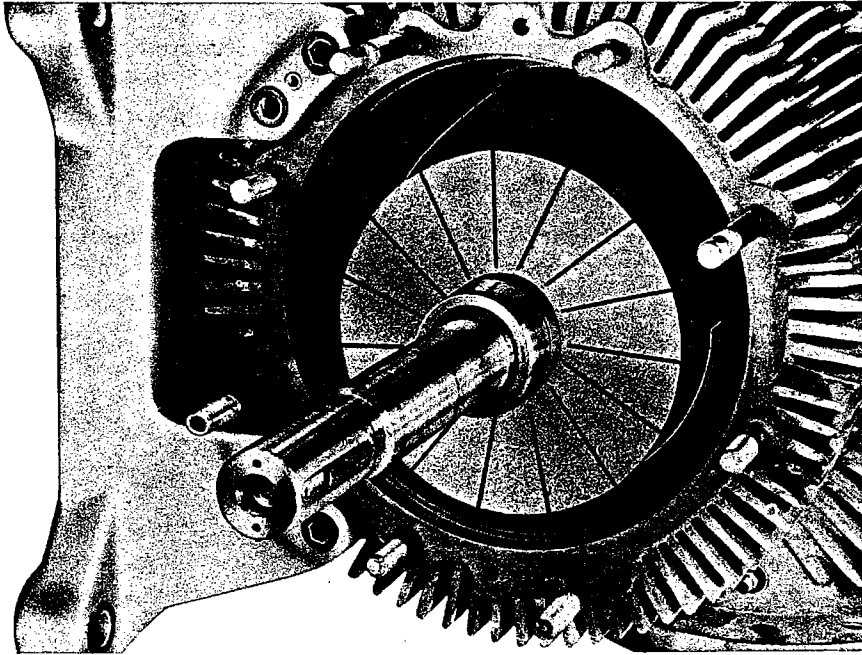
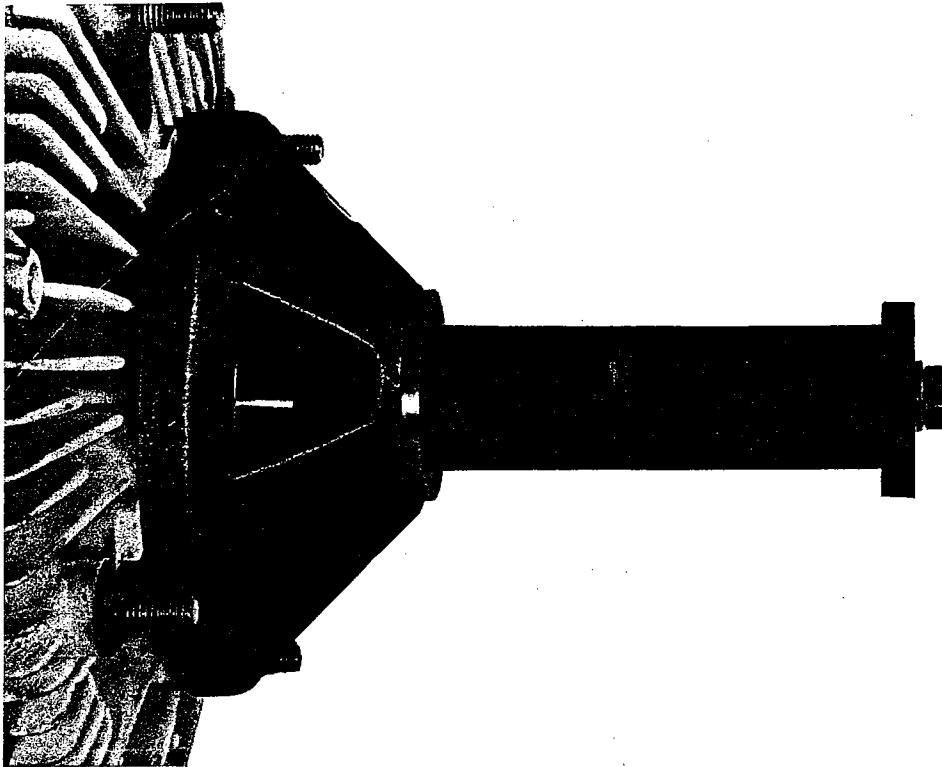

Fig. 20
Fig. 21
To the clearance "S" indicated in Table 10.1 is added half the bearing clearance of the roller bearings. Under the rotor (3) has been placed in the housing (1), a steel strip equivalent in thickness to the specified clearance plus the bearing clearance is inserted between the rotor and the housing (1) at both ends (Fig. 20). Lift the housing end-plate at the drive end, together with the gasket P1 and the fitted outer race and rollers of the cylindrical roller bearing (29), over the rotor shaft on to the inner race of the roller bearing. Place a steel disk in front of the housing end-plate and push a steel tube over the rotor shaft. A hexagonal screw fitted with a washer should then be inserted into the thread on the end of the rotor shaft and tightened until the rotor (3) is firmly held against the housing end-plate (2) (Fig. 21). Fix the end-plate (2) to the housing (1) by screwing hexagonal nuts on to the stud-bolts.